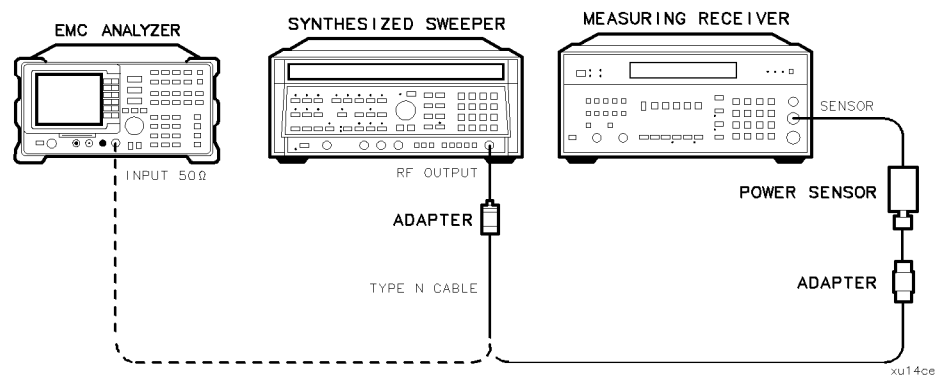

Figure 2-33.
3. Connect the equipment as shown in Figure 2-33. Connect the output of the synthesized sweeper to the power sensor.
13. Connect the synthesized sweeper to the RF INPUT of the EMC analyzer as shown in Figure 2-33.